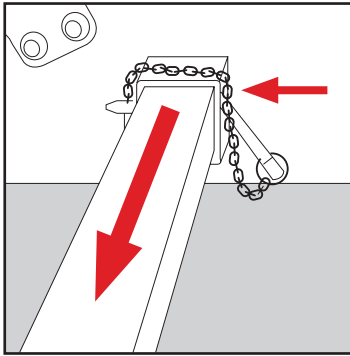

Fig.3
- Extract the legs. (Fig. 3)
- Put the safety brackets back in again. (Fig. 3)
In order to carry out this operation, unscrew the wingnut and remove the supporting bracket (Fig. 1). Fit the spotlights (Fig. 2) with the glass upwards, place the supporting bracket which grips the spotlight mounting, then the wingnut and tighten it firmly (Fig. 3).